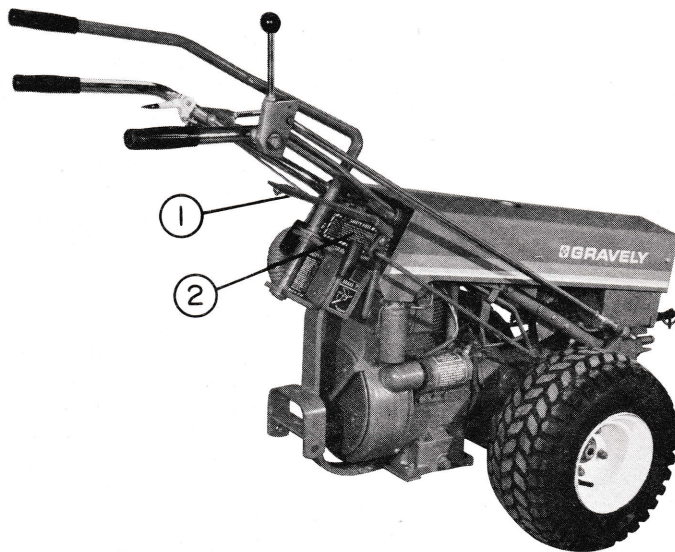

Fig. 7
2. Turn the adjusting nuts on the brake rods until the cross weldment is parallel to the instrument panel. The brake handlebar should have a slight amount of free movement to assure that the brakes are not too tight. See fig. 7.